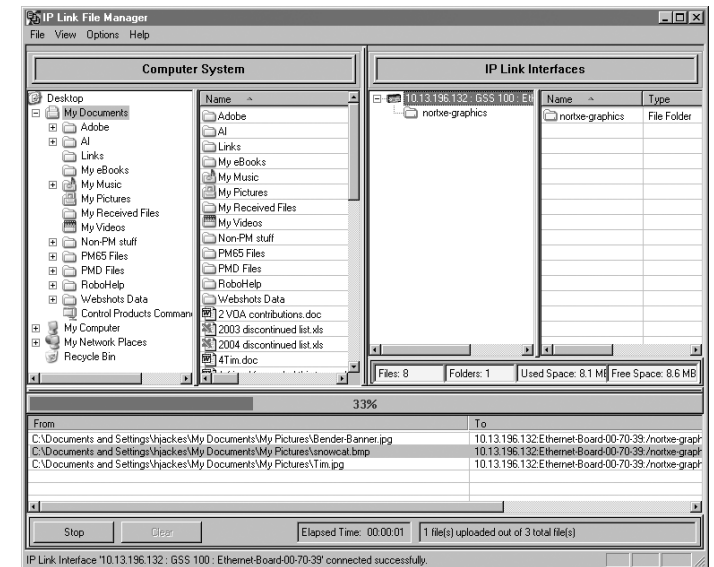

Figure 5-16 — IP Link File Manager program window
4. The IP Link File Manager program window appears (figure 5-16). The window contains two major sections.